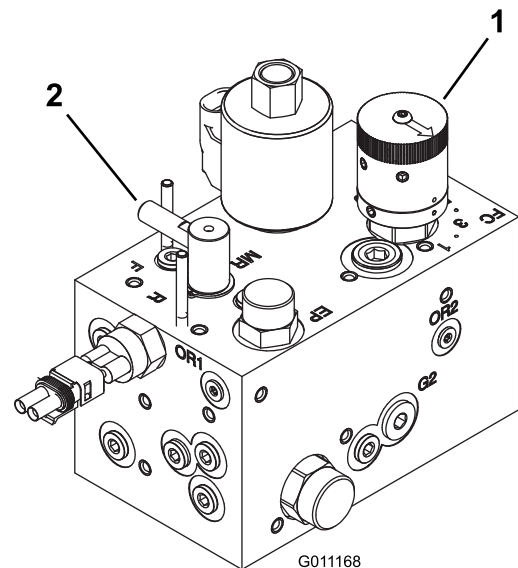

Figure 75
3. Rotate the backlap control to the backlap position (R). Rotate the reel speed control to position 1. See Figure 75.